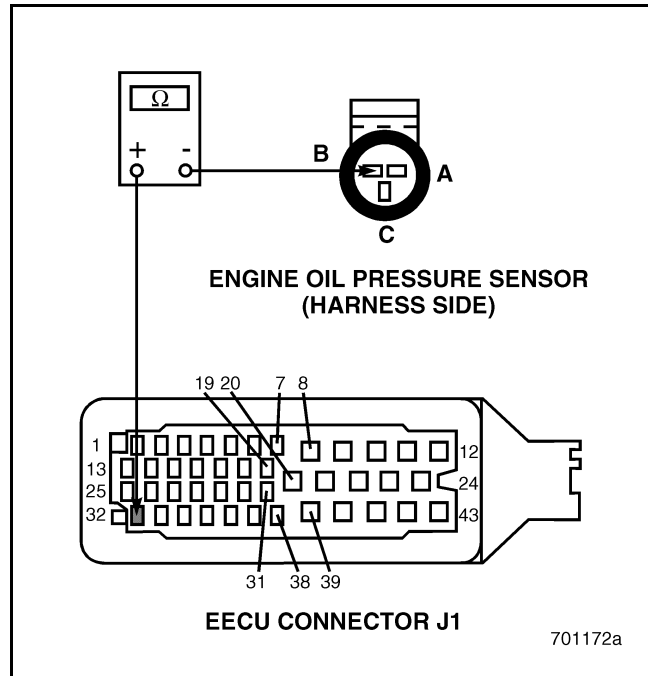

Figure 13
3. Check for continuity between Engine Oil Pressure (EOP) Sensor harness connector pin B (reference voltage line) and EECU harness connector J1 pin 32 (see Figure 13).